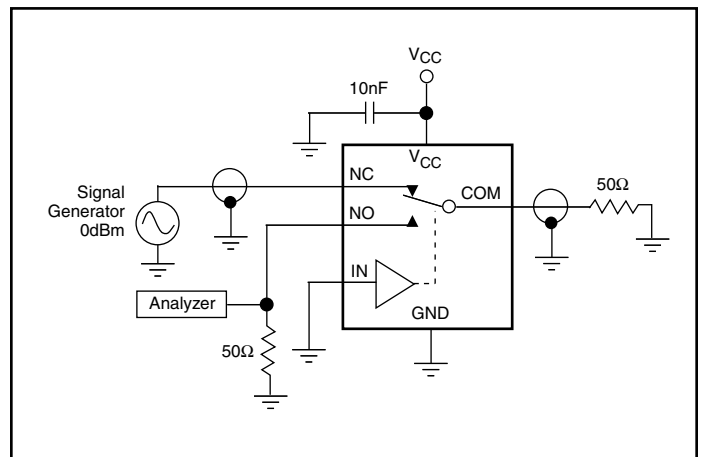

Figure 4. Crosstalk
7. Off Isolation = 20log10 [ VCOM / (VNO or VNC) ]. See Figure 4.